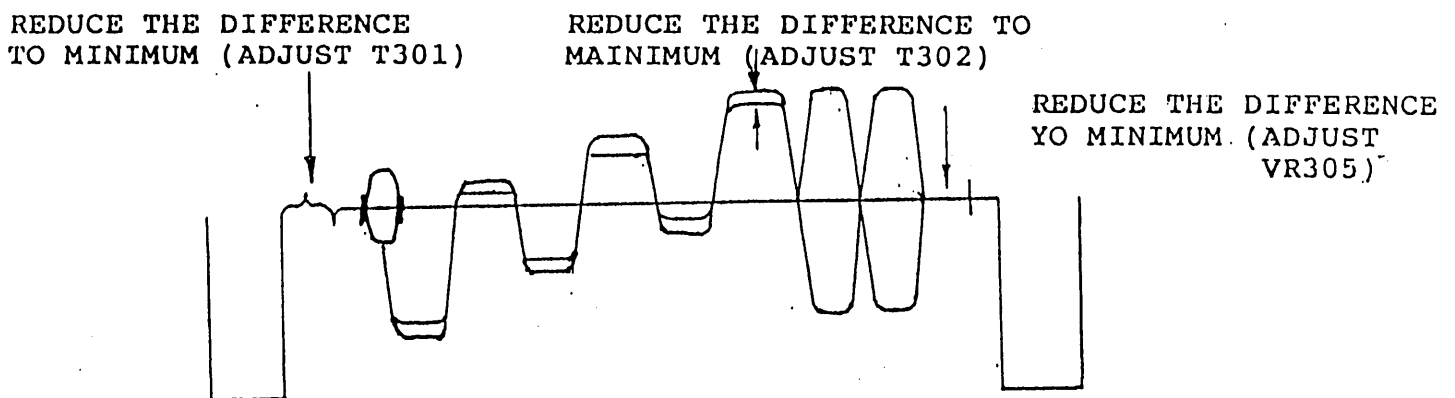

Fig.6
- (iv) Adjust T221 to obtain the waveform as Fig.6.
- (1) Receive Philips Pattern.
- (2) Connect Oscilloscope to TP303
- (3) Set the service switch (S301) to service position.
- (4) Set color control to maximum position.
- (5) Adjust T301, 302 and VR305 to obtain the waveform as Fig.6.